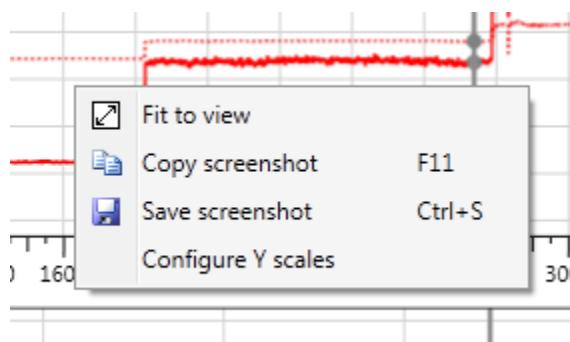

Figure 90. Left Click Chart Options
- Right click in the chart to see more chart options (Figure 90).